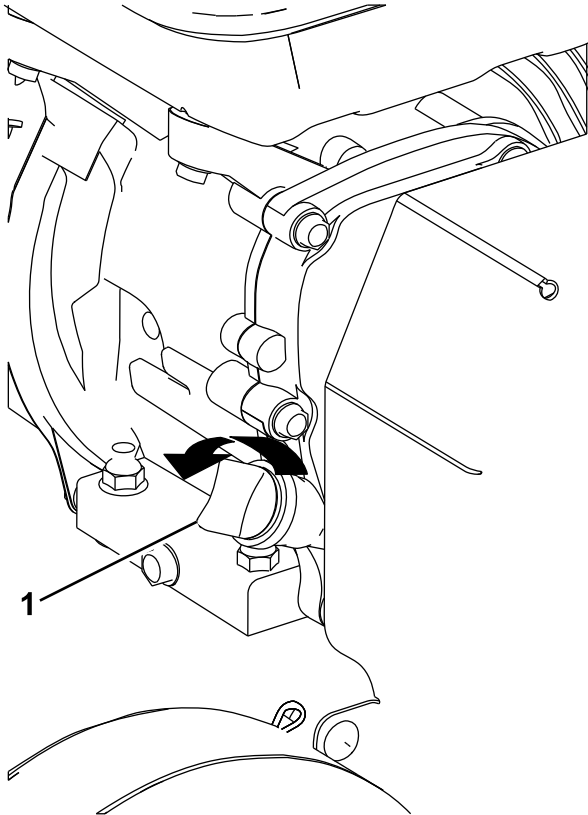

Figure 10
2. Clean around the dipstick (Figure 10) so that dirt cannot fall into the filler hole and damage the engine.
3. Unscrew the dipstick and wipe the end clean (Figure 10).
4. Insert the dipstick fully onto the filler tube. **Do not screw it in.**(Figure 10).